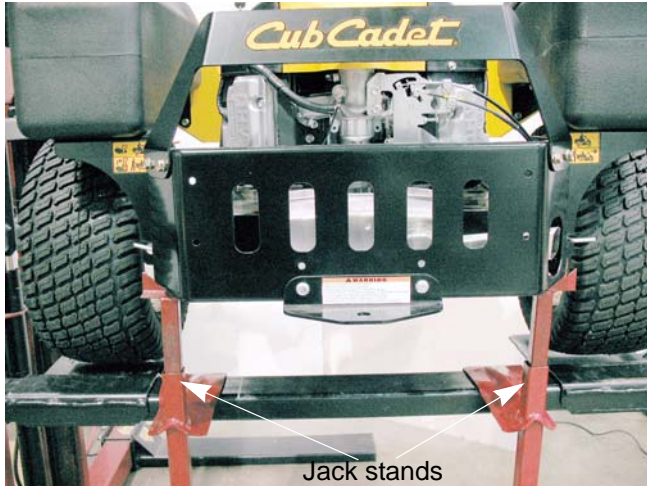

Figure 5.1
4. Remove one of the rear wheels. See Figure 5.1.
11. Unplug the electric PTO harness. See Figure 5.1.